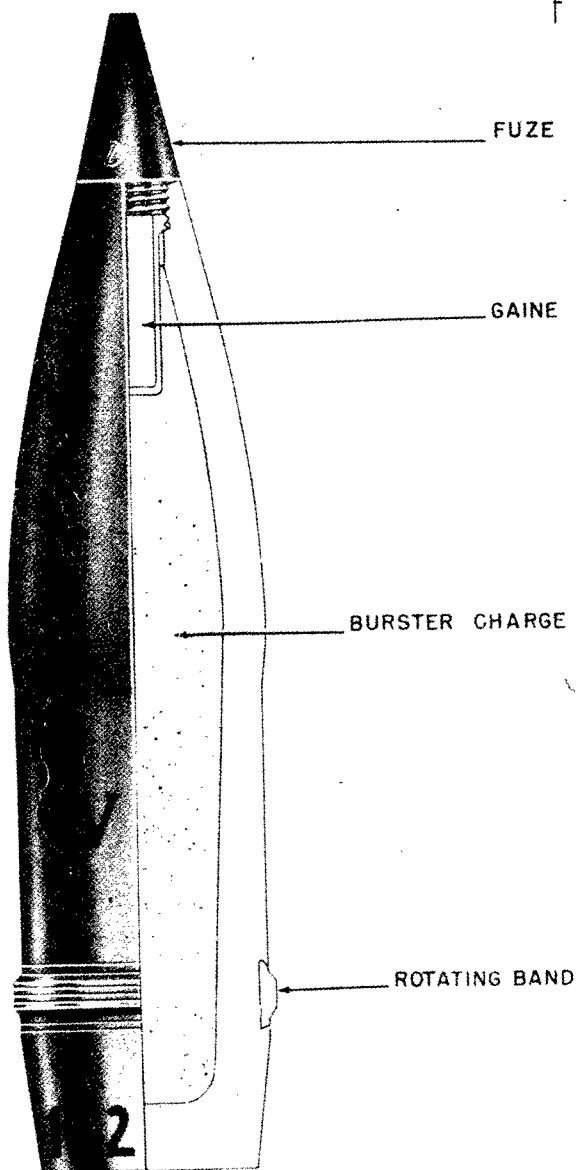

Figure 516—H. E. Projectile, 152-mm, 15.2-cm Sprgr. F. E. W.
**GERMAN NOMENCLATURE:** 15.2-cm Sprgr. F. E. W. (See fig. 516.)